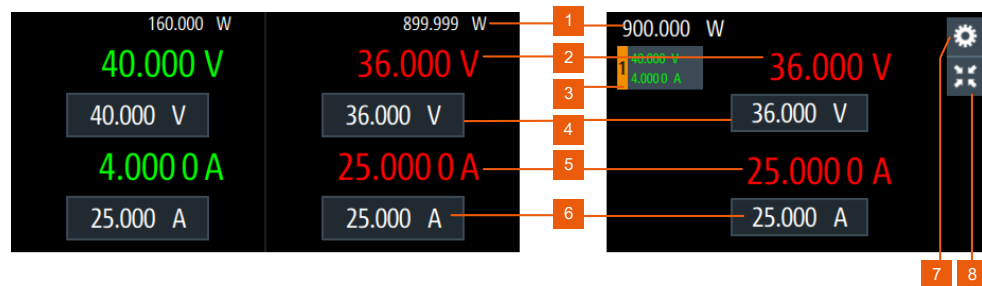

Figure 3-22: Channel display area for two-channel model in home window and detailed channel display window
For the two-channel model, tap anywhere in the home window to access the detailed channel display window. See Figure 3-22. You can access the instrument settings and home window with the respective icon on the channel display area. In addition, tap on the alternative channel view to see the details in the respective detailed channel display window.
1. Press [Settings] key at the front panel. Alternatively, select the "Settings" softkey in the home window for R&S NGT3621 or via the respective channel display area in detailed channel display window for R&S NGT3622. See Table 3-7 and Figure 3-22.